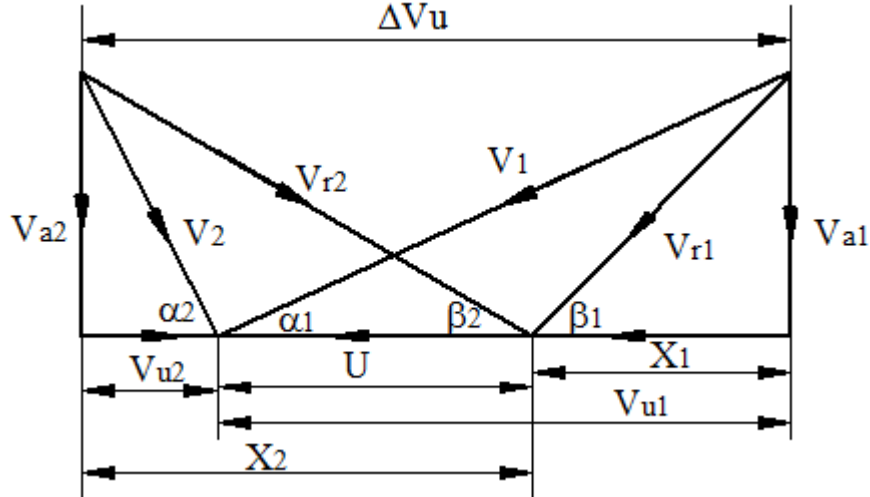

Fig. 3.9 Combined velocity diagram for an axial flow reaction turbine
**Answer:** The combined velocity diagram for an axial flow reaction turbine is as shown in figure 3.9.
From velocity diagram (fig.3.9),  $U = V_{u1} - x_1 = V_{a1}\cot\alpha_1 - V_{a1}\cot\beta_1$
From velocity diagram (fig.3.9),  $U = x_2 - V_{u2} = V_{a2}\cot\beta_2 - V_{a2}\cot\alpha_2$
From velocity diagram (fig.3.9),  $V_a = V_1\cos\alpha_1 = V_{r2}\cos\beta_2$
For Parson's (axial flow 50% reaction) turbine,  $\alpha_1 = \beta_2$  and  $\alpha_2 = \beta_1$  and also  $V_1 = V_{r2}$  and  $V_2 = V_{r1}$ , then the velocity triangles are symmetric (refer figure 3.9).